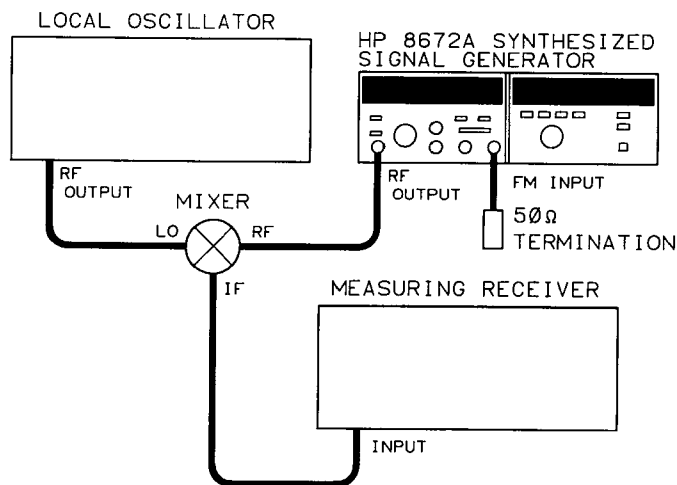

Figure 4-16. Residual FM Test Setup
1. Connect the equipment as shown in Figure 4-16.